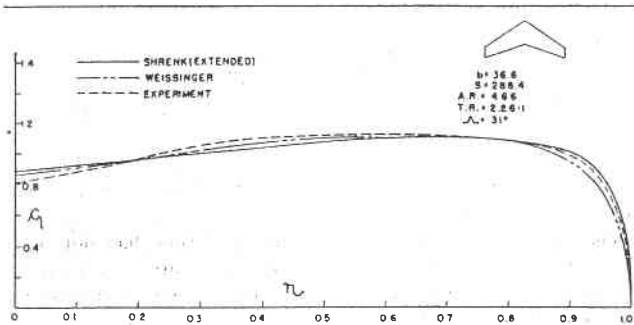

FIG. 2. Spanwise distribution of section lift coefficient.
Fig. 2. A.R. = 4.66, 31° sweep, taper ratio 2.26 to 1. The method of Eq. (1) closely follows both experiment and Weissinger. At the tip it is slightly closer to experiment than Weissinger.